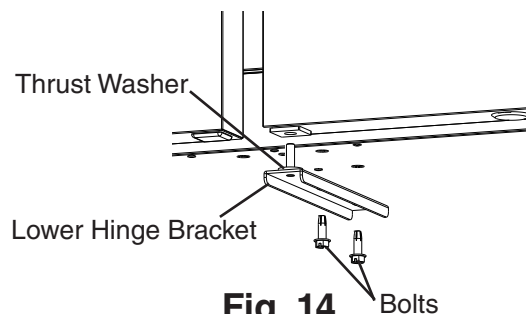

Fig. 14
- 6) Clear the foam from the lower hinge bracket mounting holes prior to securing lower hinge bracket in its new location. Install the lower hinge bracket in its new location. Be sure the lower hinge bracket is pushed all the way in and the thrust washer is in its original position. See Fig. 14.